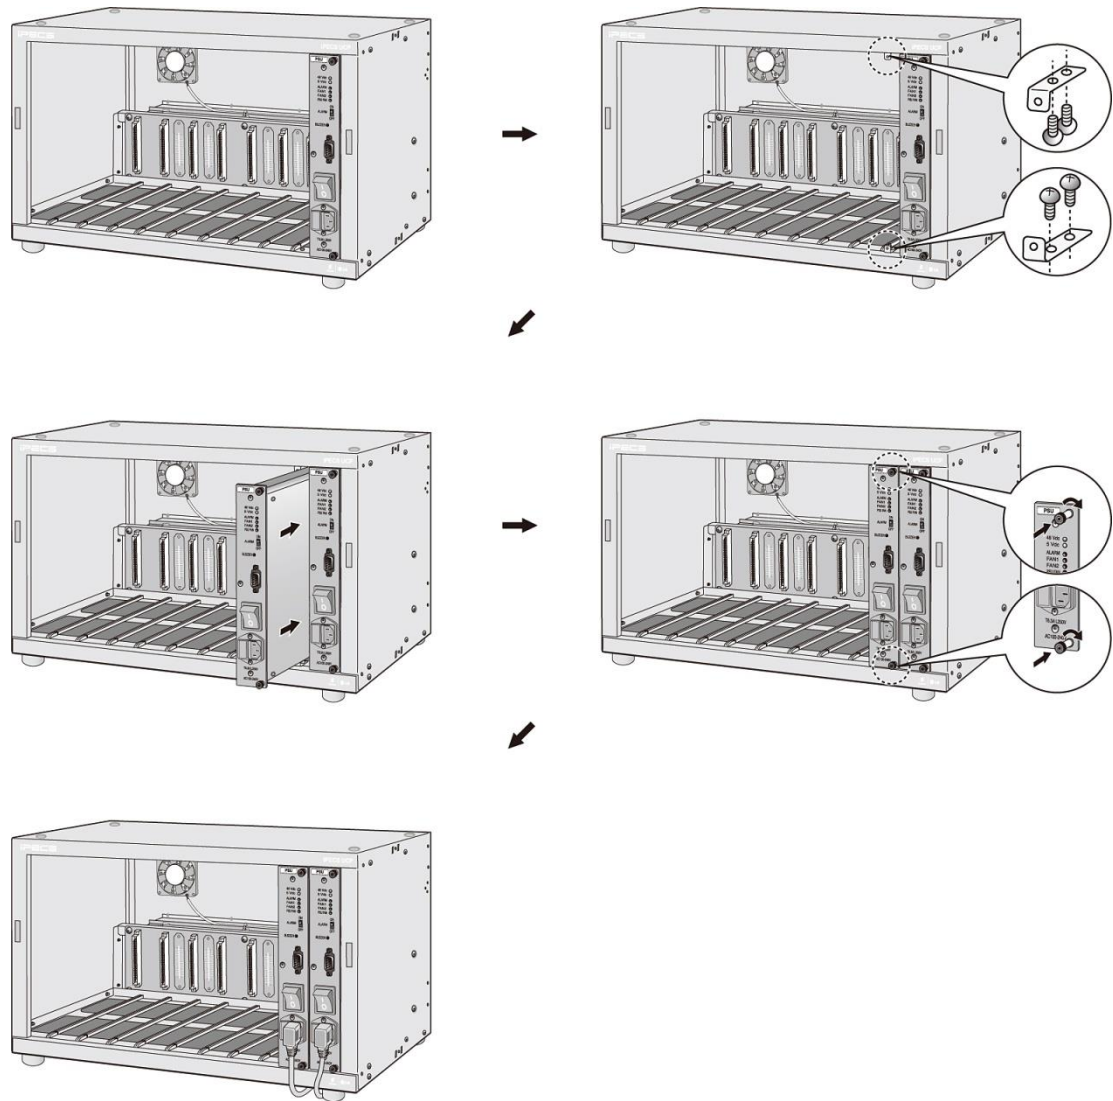

Figure 5.3-2 Back-up PSUs Installation
The back-up PSU for power redundancy is installed as described below and shown in Figure 5.3-2.
- 2) Using the screws provided, install the upper and lower PSU thumbscrew brackets to the right of the slot 9 slides as shown in Figure 5.3-2.